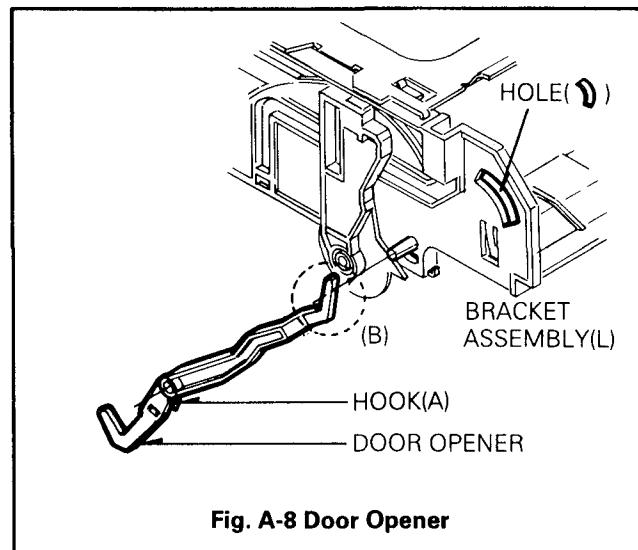

Fig. A-8 Door Opener
- 1) When reassembling, seat the shaft in the part(A) of Bracket Assembly(L),(R)
8. Door Opener(Fig. A-8)